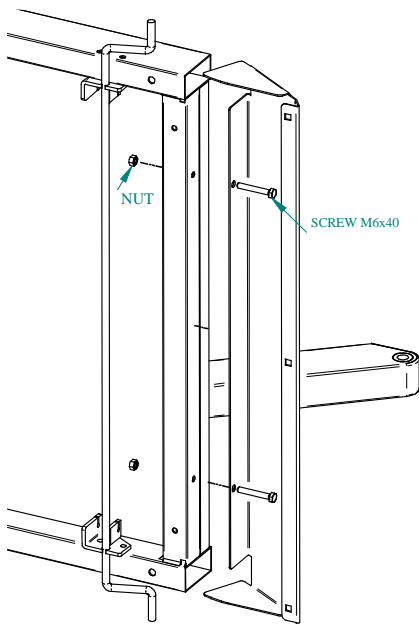

Fig. 1
3. Install the ramps with the hardware provided (Fig. 1).